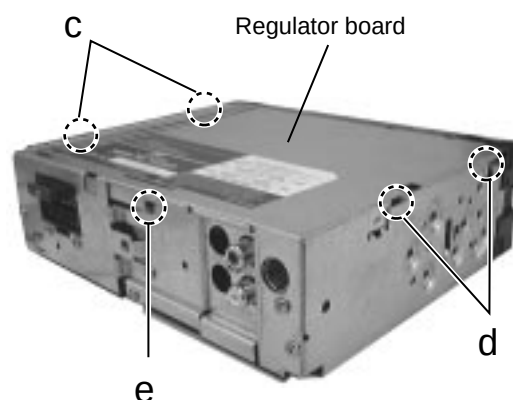

Fig. 4
■ Removing the bottom cover (See Fig.4)